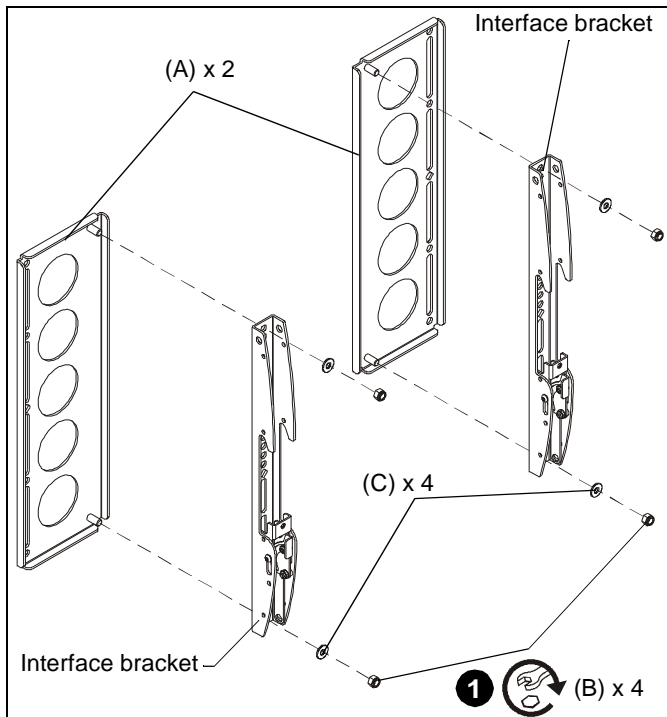

Figure 1
1. Use four 5/16" lock nuts (B) and four flat washers (C) to connect two interface brackets to two extender brackets (A). (See Figure 1)